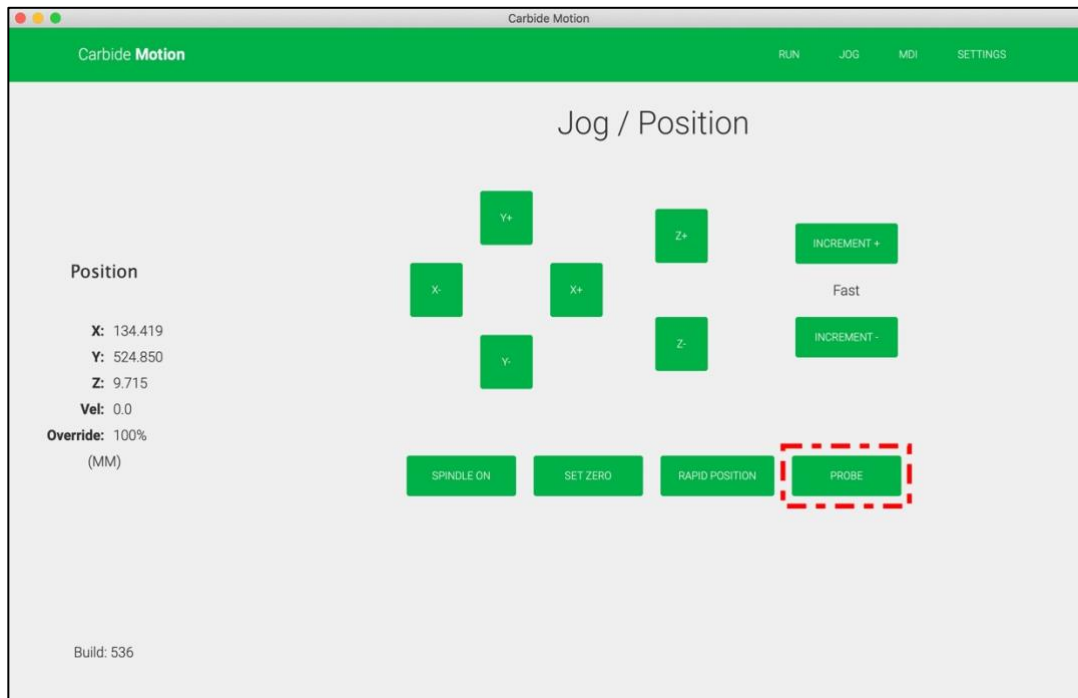

Figure 6
9. Click the **Probe** button to open the *Probe Workpiece* window. See **Fig. 6**.